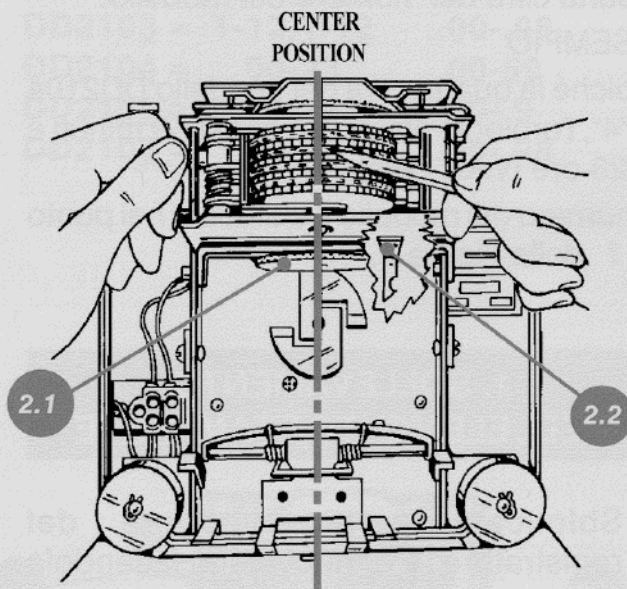

FIGURE 2
1. Use a pointed object to rotate each wheel until the correct time and day are vertically aligned at the center position, as shown in Figure 2.